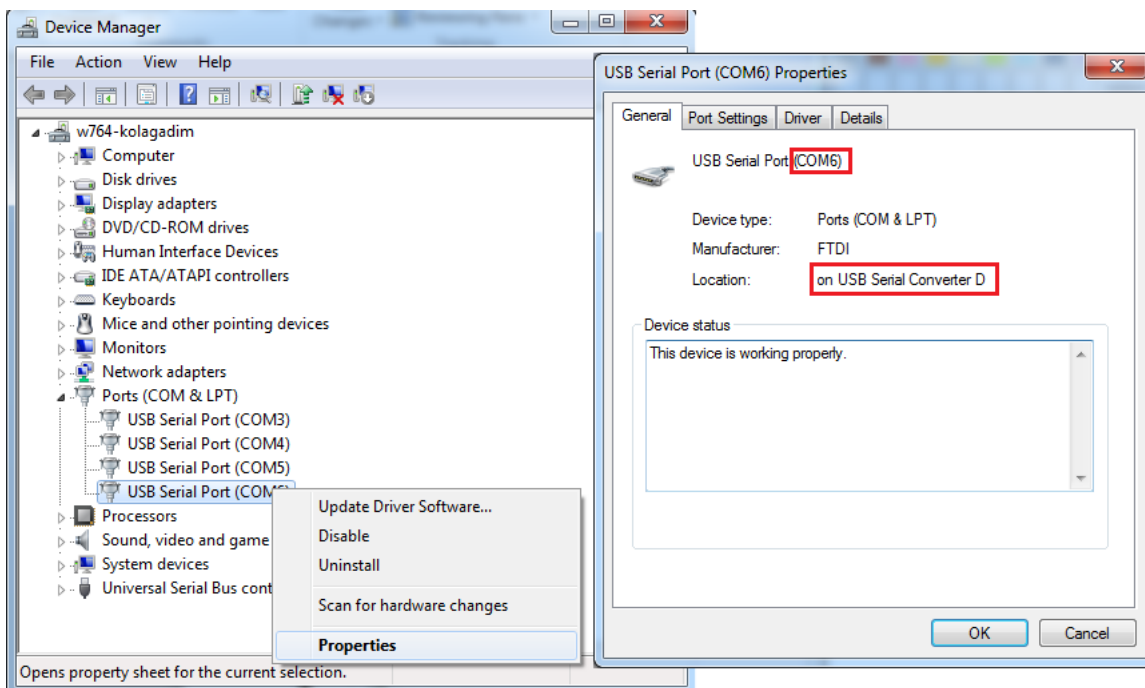

Figure 6 • USB to UART Bridge Drivers
Make sure that the USB to UART bridge drivers are automatically detected (can be verified in the Device Manager), as shown in Figure 6.
4. From the detected four COM ports, select the one with its location on **Properties** window as **on USB Serial Converter D**. Make a note of the COM port number for serial port configuration and ensure that the COM port location is specified as **on USB serial Converter D**, as shown in Figure 6.